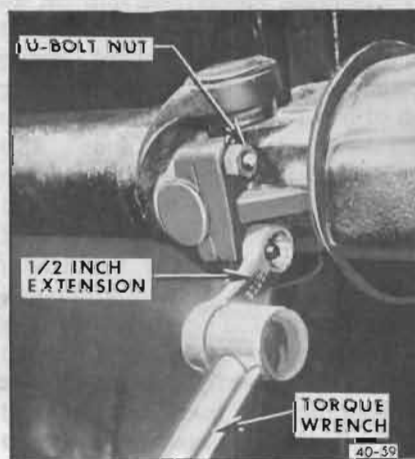

Figure 40-80—Using Extension to Torque U-Bolt Nuts
6. Install "U" bolt clamps and nuts. Draw nuts up evenly and torque to 12 lb. ft. using a 1/2 inch extension such as J-9113. (On 49000, install four pinion flange bolts and torque evenly to 85 lb. ft.). See Figure 40-80.